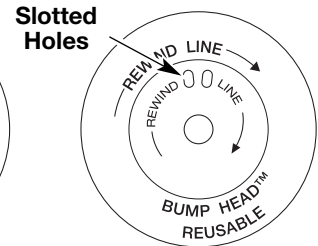

Fig. 14
**NOTE:** SplitLine™ can only be used with the inner reel with the slotted holes. Single line can be used on either type of inner reel. Use Figure 14 to identify the inner reel you have.